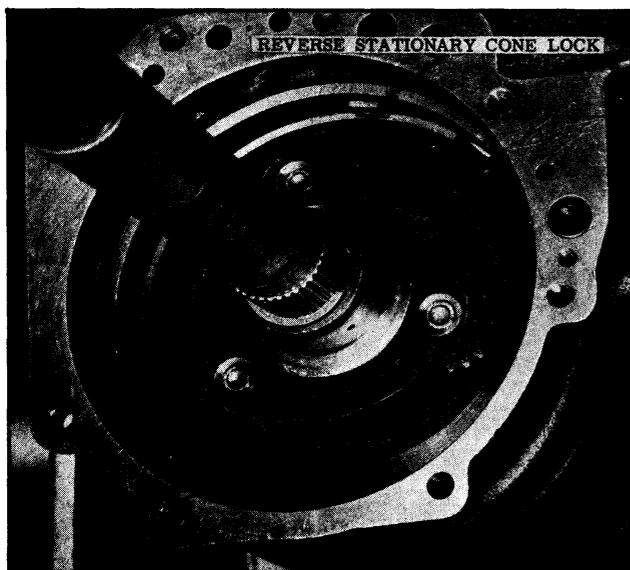

Fig. 3-132 Reverse Stationary Cone Lock
3. Install reverse stationary cone lock in the transmission case and retain with petrolatum. (See Fig. 3-132)